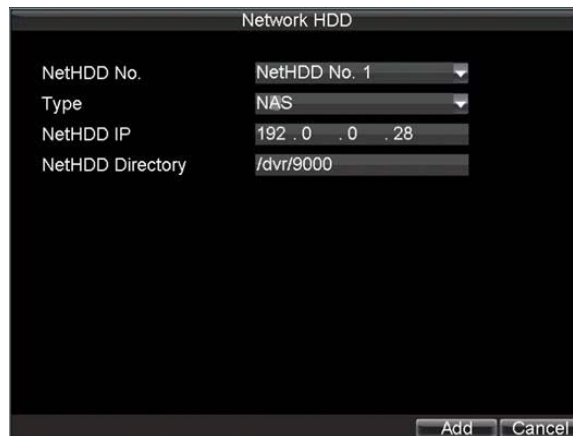

Figure3. Network HDD Menu
3. Select type as NAS or IP SAN, shown in Figure 3 when selected as NAS.